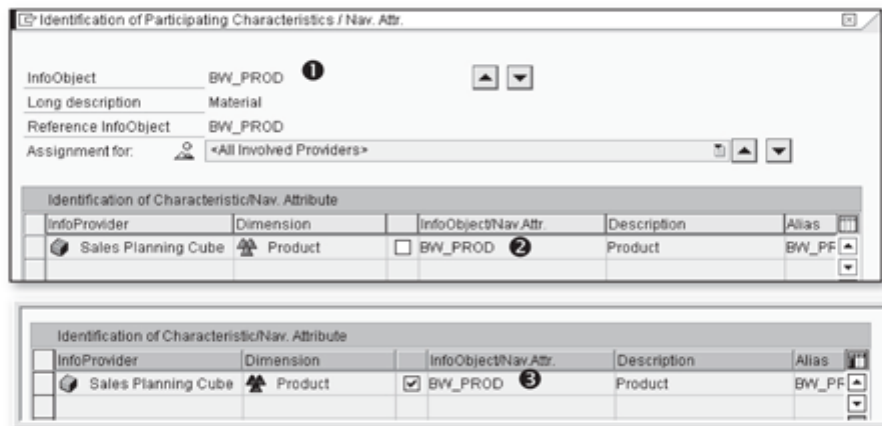

Figure 6.12 Edit MultiProvider: Identify Characteristics Only from One InfoCube
You might also have a scenario while identifying the characteristics across InfoCubes within a MultiProvider where the characteristics can't be matched to a characteristics or navigation attribute in another InfoCube or data target included in the definition of MultiProvider. For example, characteristic BW_PROD is included in the MultiProvider definition (❶ of Figure 6.12), and BW_PROD is offered only from InfoCube Sales Planning Cube because there's no matching available in Sales InfoCube (❷). Select as shown in ❸ of Figure 6.12.